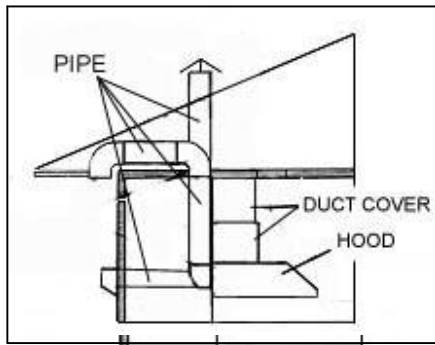

Figure 8
- Decide the location of the venting pipe from the hood to the outside. Refer to Figure 8.